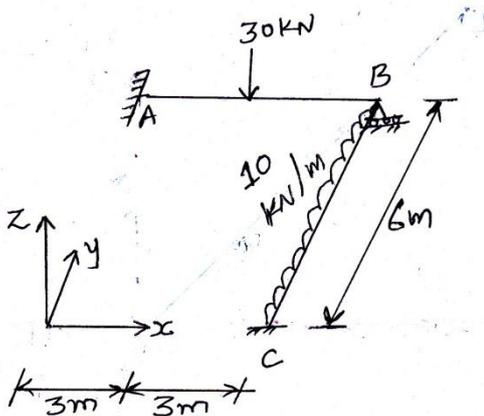

Figure 5
- Q.3 (a) Construct rearranged joint stiffness matrix for a grid as shown in Figure 5. **07**
- (b) Obtain load vector for the grid shown in Figure 5. **07**